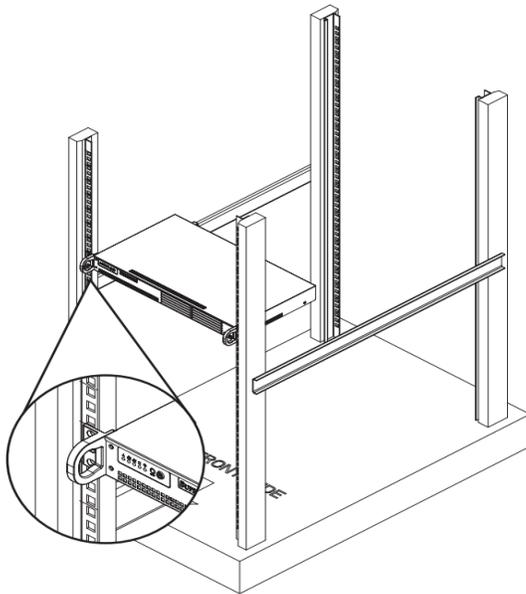
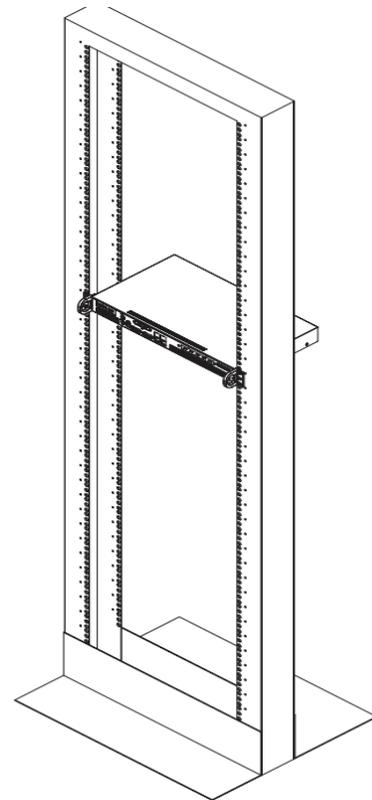

Figure 3-6: Install Chassis to Standard Rack
Figure 3-7: Install Chassis to Telco Rack
NOTE: The illustrations in Figure 3-6 and Figure 3-7 are for general guidance purposes only. Always install the Device chassis to the bottom of the rack first to avoid the rack becoming top heavy.
3. Insert the mounting screws into the thru holes in the front of the chassis and through the thru holes in the rack as shown in Figure 3-6 and Figure 3-7.